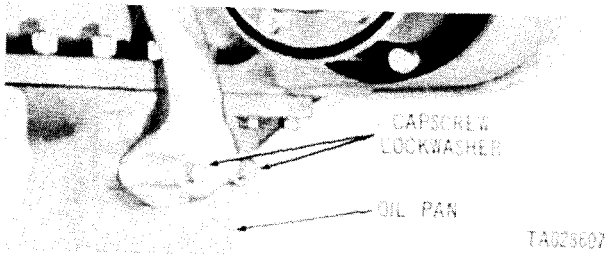
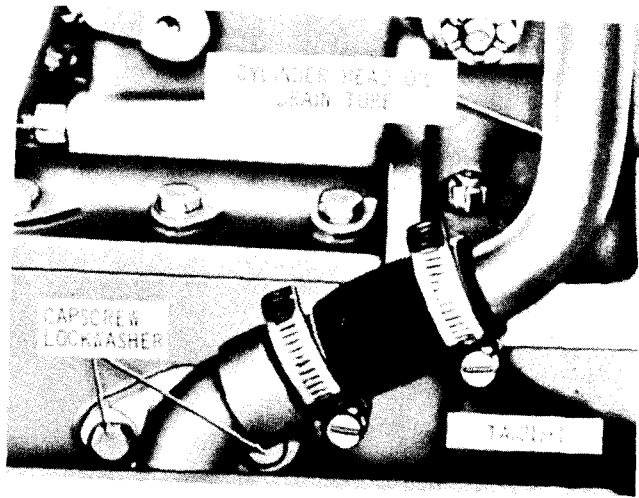
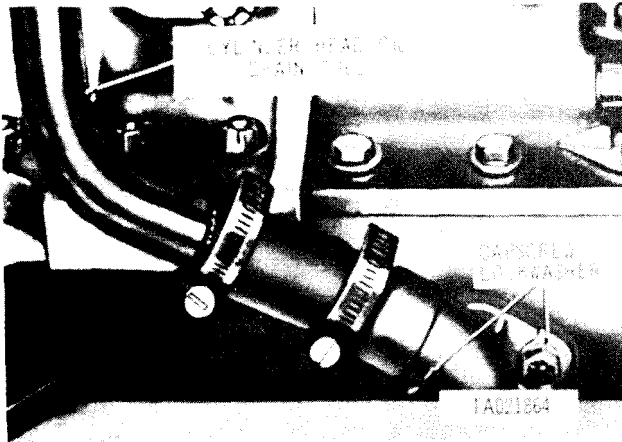

Figure 3-26. Disconnecting or connecting right rear cylinder head oil drain tube.
Figure 3-27. Disconnecting or connecting right front cylinder head oil drain tube.
Figure 3-28. Disconnecting or connecting left front cylinder head oil drain tube.
a. Remove two capscrews and lockwashers (fig. 3-26) attaching right rear cylinder head oil drain tube to oil pan. Remove two capscrews and lockwashers (fig. 3-27) attaching right front cylinder head oil drain tube to oil pan. Disconnect the left front and rear cylinder head oil drain tubes in the same manner (figs. 3-28 and 3-29).